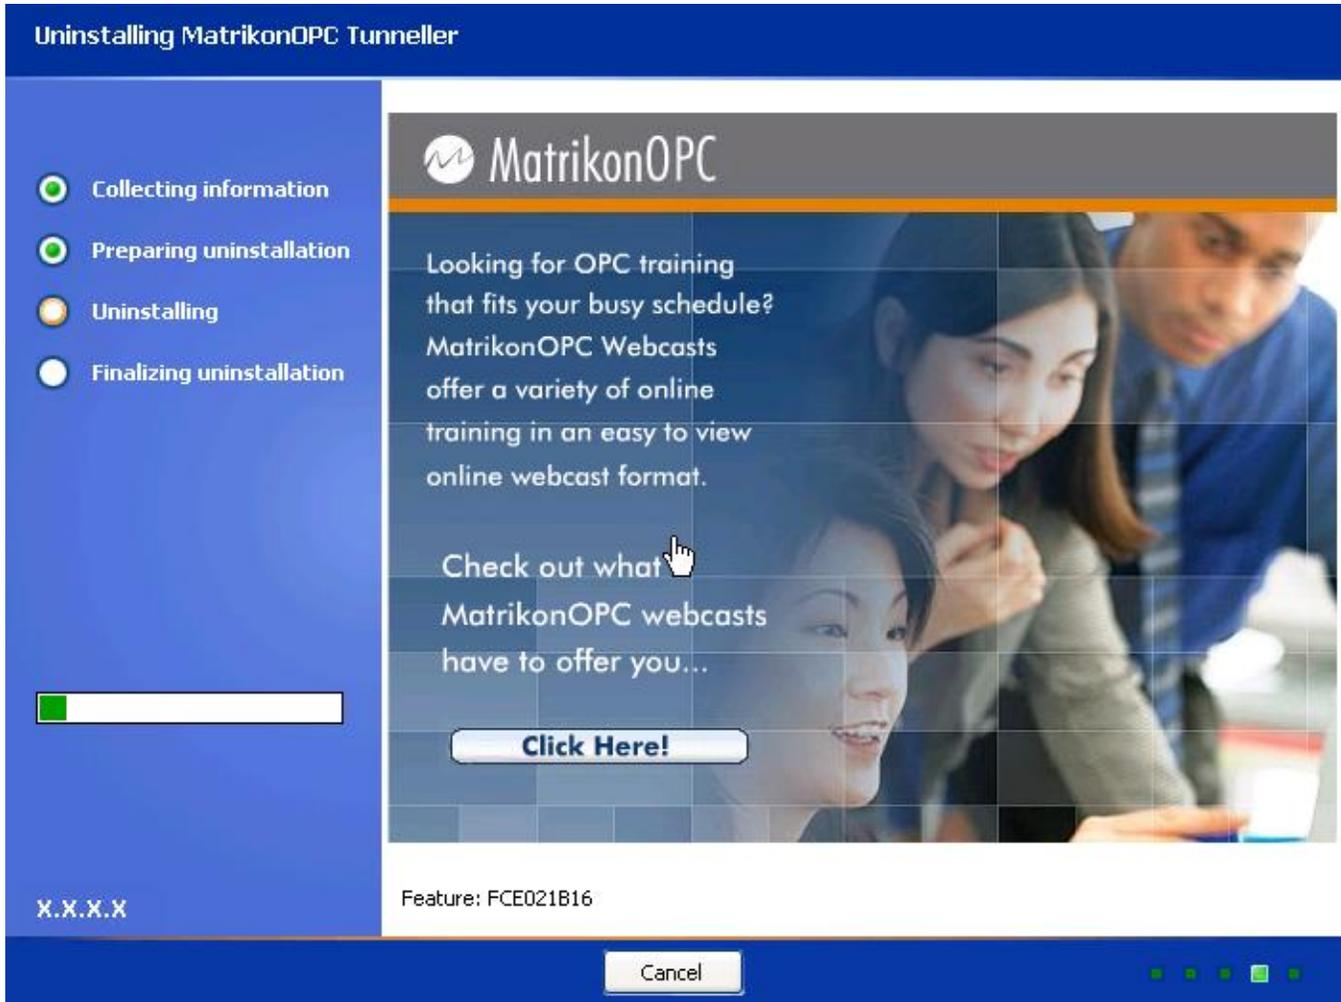

Figure 37 - Uninstalling MatrikonOPC Tunneller Screen
11. The **Uninstalling MatrikonOPC Tunneller** screen (Figure 37) appears and the un-install takes place.